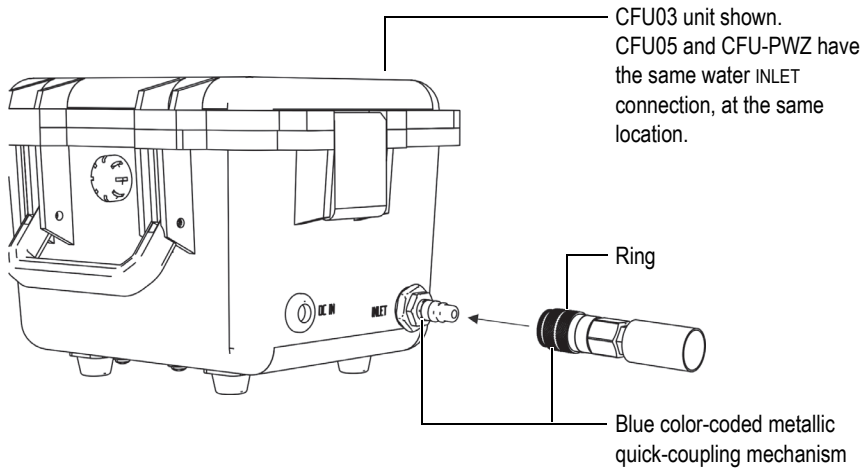

Figure 2-8 Water supply INLET connection
3. Push the blue female metallic quick coupling in the blue male INLET connector until it snaps into place (Figure 2-8 on page 34); in this position, the connector is locked.
2. Pull back the blue ring of the coupling to release the tube's male connector (Figure 2-8 on page 34).